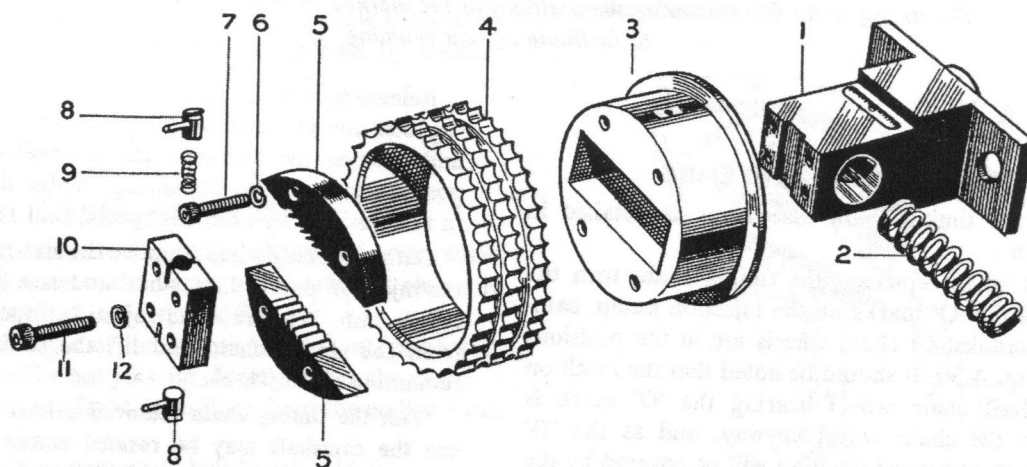

Fig. A.31
Release the tension from the timing chain by squeezing together the chain tensioner pawl pins (see Fig. A.31) and pushing the tensioner chain wheel over as far as possible to compress the spring; wedge the chain wheel in this position by inserting special tool 18G241.
Unscrew the eight set screws (7) and (11) (Fig. A.31) which secure the retaining plates (5) and the end plate (10) to the slide block (3) and the shank (1) respectively; care must be taken not to lose the two pawls (8) and the pawl spring (9). It is advisable to mark one of the retaining plates (5) and its mating surface on the slide block (3) to ensure correct reassembly.
Reassembly is a reversal of the above procedure, but it is most important that the retaining plates (5) and the pawls (8) are fitted correctly, that is with the teeth of the ratchets facing in the direction shown in Fig. A.31, otherwise the restraint mechanism becomes inoperative.